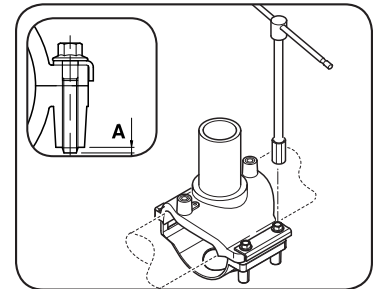

FIG.2
- 4 Fasten the saddle on the pipe using the QUICK-COUPLING PLASTIC UNDERCLAMP: hook up the square holes of the underclamp to the teeth of the upper part. Line up the metal spacer and use a wrench to tighten the two screws until they are in position A in the lower part (feel the screws sticking out the bottom, see fig.2).